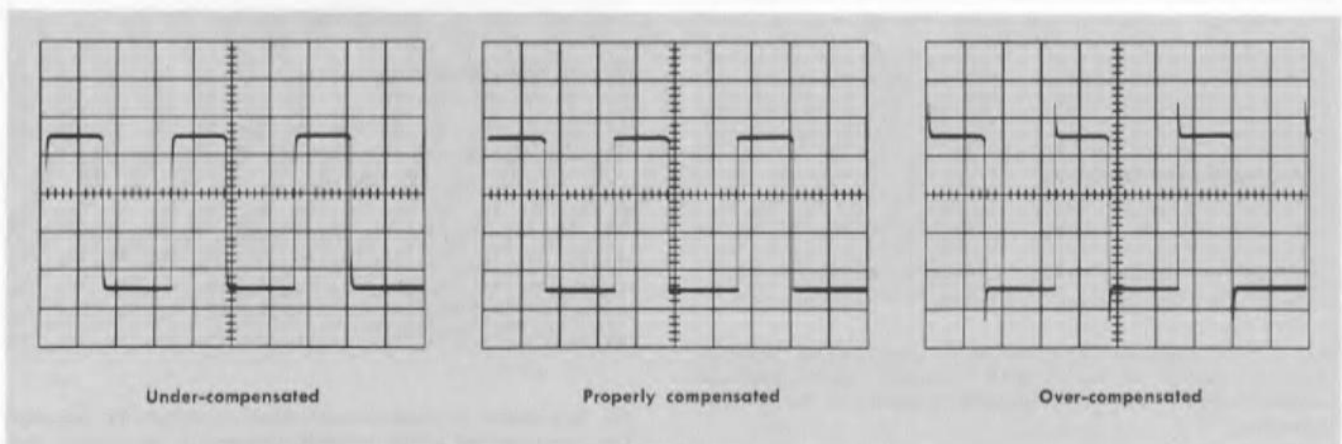

Fig. 4. Probe compensation waveforms.
2. Set the oscilloscope controls to display several cycles of the Calibrator waveform, as shown in Fig. 4.